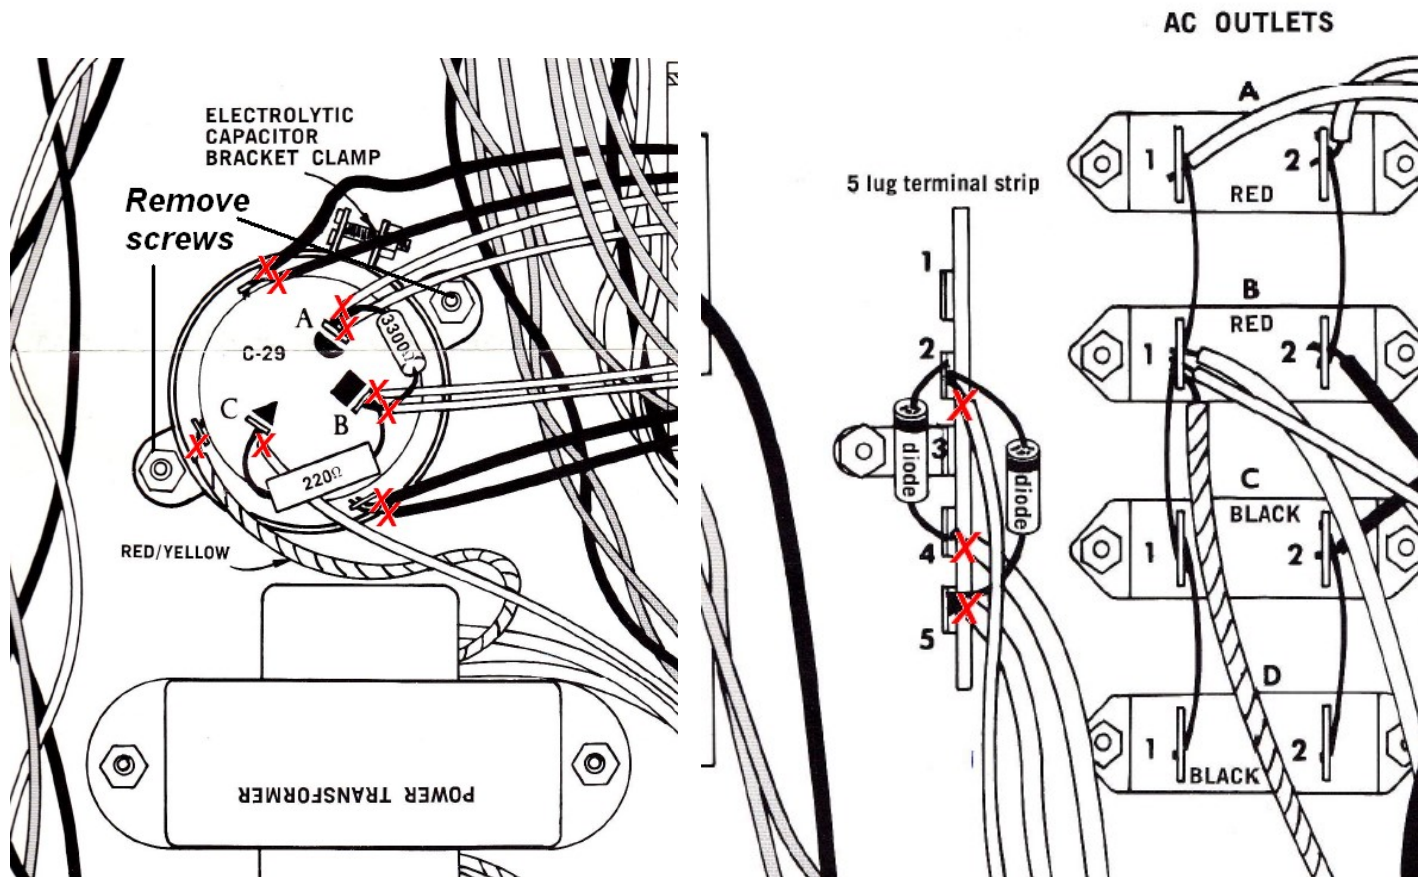

Figure 3-Showing wires to cut and screws to remove
6. Refer to Figure 3. Desolder (or cut close to C29) the following wires from C29, the tall 3-section capacitor. As you de-solder each wire, place a masking tape label on the wire to aid re-assembly (if directed to do so).